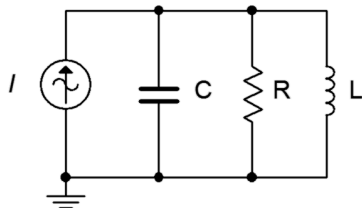

Figure 3.23
40. Determine a value for L such $|X_C| = |X_L|$ for the circuit shown in Figure 3.23. The source frequency is 22 kHz, $R = 18\ \text{k}\Omega$ and $C = 5\ \text{nF}$.
45. Assume you are troubleshooting a circuit like the one shown in Figure 3.23. I is a 10 mA peak sine at 2 kHz, $R = 390\ \Omega$, $C = 200\text{ nF}$ and $L = 25\text{ mH}$. The measured resistor voltage is a little under 2.5 volts. What is the likely culprit?
46. Given the circuit shown in Figure 3.23, find the values for C and L if the source is a sine wave at 1 kHz, $R = 4\text{ k}\Omega$, $i_{\text{Source}} = 3\text{ mA}$, $i_R = 2\text{ mA}$, $i_L = 5\text{ mA}$,
54. Following the idea presented in the previous problem, investigate the impedance as a function of frequency of the circuit shown in Figure 3.23. Use $R = 1\text{ k}$, $C = 10\text{ nF}$, and $L = 1\text{ mH}$. Run the simulation from 100 Hz to 10 MHz. Make sure to sketch your expected results first.